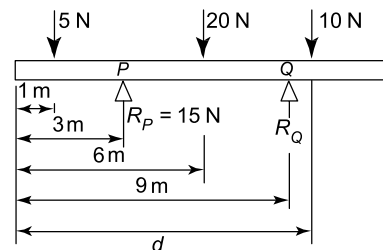

Figure RT3.2
- For the beam shown in Figure RT3.2 calculate (a) the force acting on support Q , (b) distance d , neglecting any forces arising from the mass of the beam. (7)